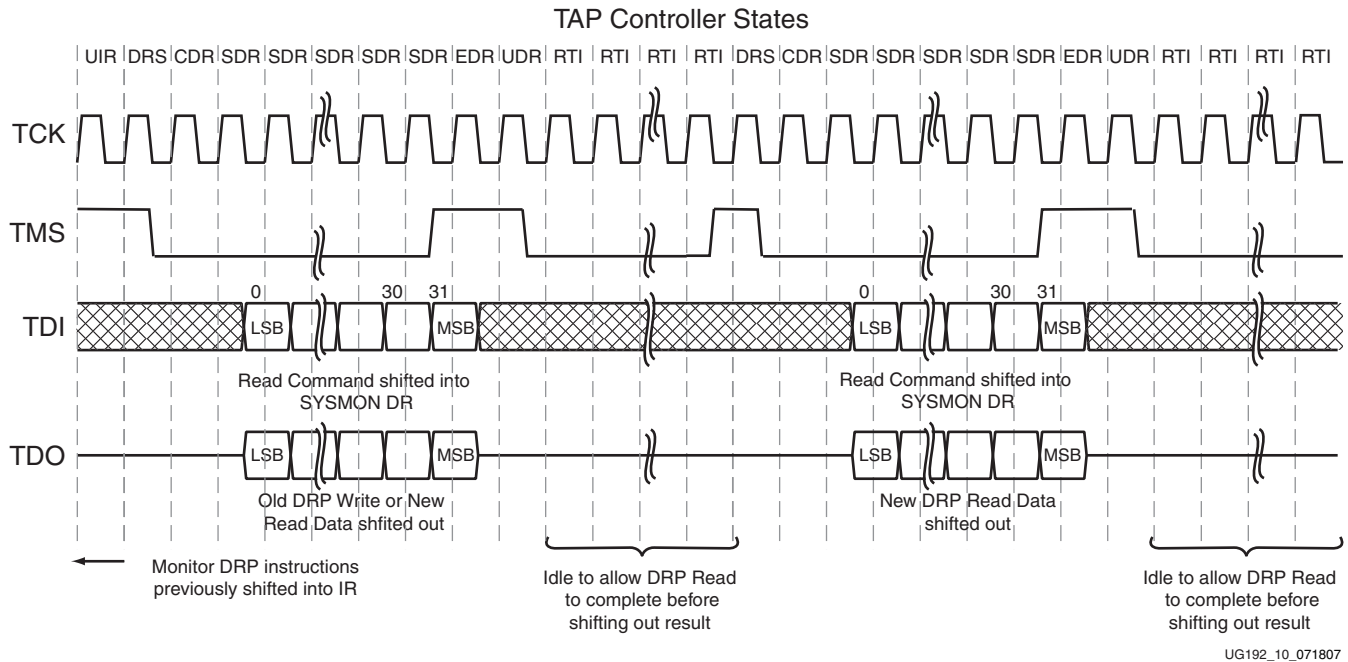

Figure 10: System Monitor JTAG DRP Read Operation
Figure 10 shows the timing for a SYSMON DR Read operation. The IR should contain the DR-scan operation SYSMON instruction. A JTAG Read from the System Monitor DRP is a two-step operation.
- During the DR-Capture phase of the next DR-scan, newly read data is transferred from the arbitrator to the SYSMON DR. This 16-bit data (stored in the 16 LSBs of the 32-bit word) is then shifted out on TDO during the subsequent shift operation (see Figure 10). The timing diagram shows a number of idle states at the end of the first DR-scan operation, allowing the arbitrator enough time to fetch the System Monitor DRP data.
To ensure reliable operation over all operating clock frequencies, a minimum of ten Run-Test-Idle (RTI) states should be inserted. Multiple Read operations can be pipelined, as shown in Figure 10. Thus, as the result of a read operation is being shifted out of the SYSMON DR, an instruction for the next read can be shifted in.